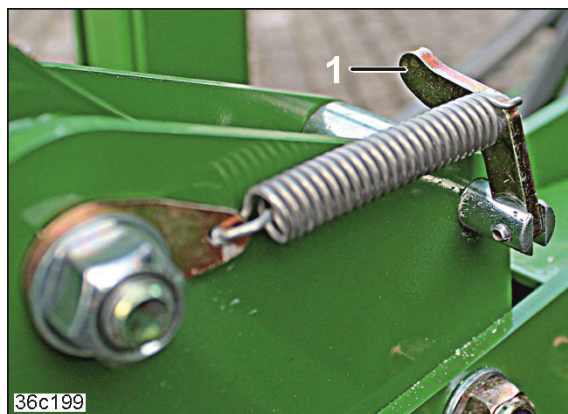

Fig. 197
2. Swivel both handles (Fig. 197/1) up.